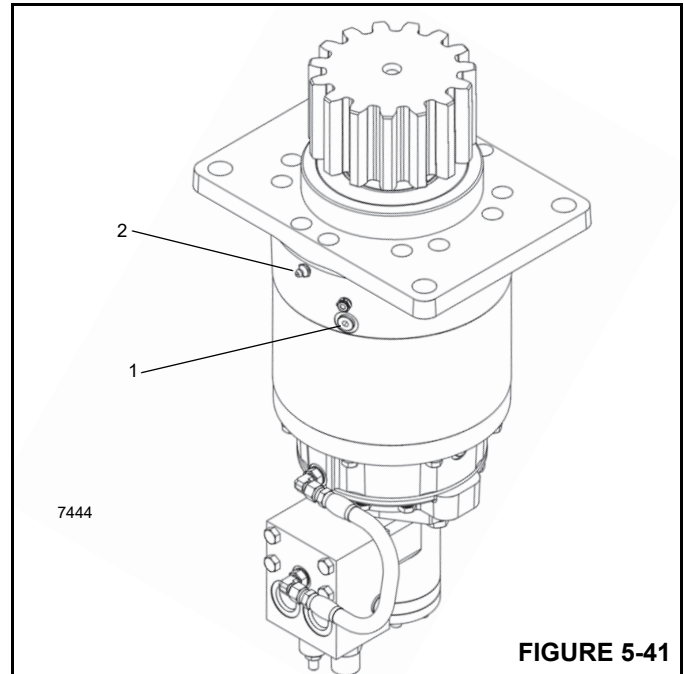

FIGURE 5-41
1. Clean around the swing gear box check plug (1, Figure 5-41) and remove the plug.
4. Apply a Lithium Base E.P. No. 2 bearing grease to the grease fitting (2, Figure 5-41) on the gear box.